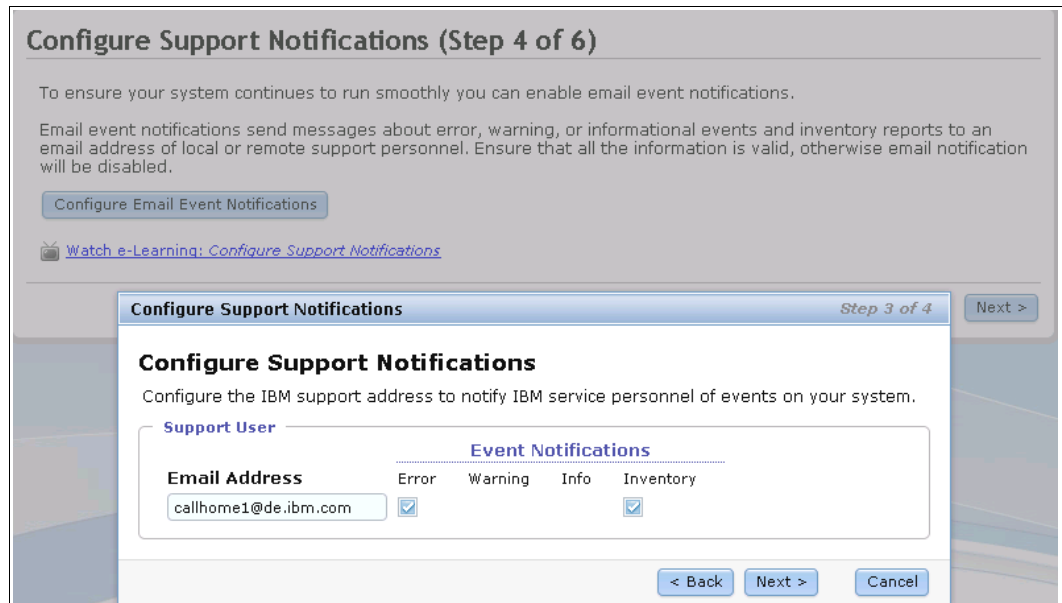

Figure 2-20 Email and event configuration - Setting email address and event level for Call Home
- Type in the receiving email address for local users and for support and select the appropriate message type for each user (Figure 2-20).